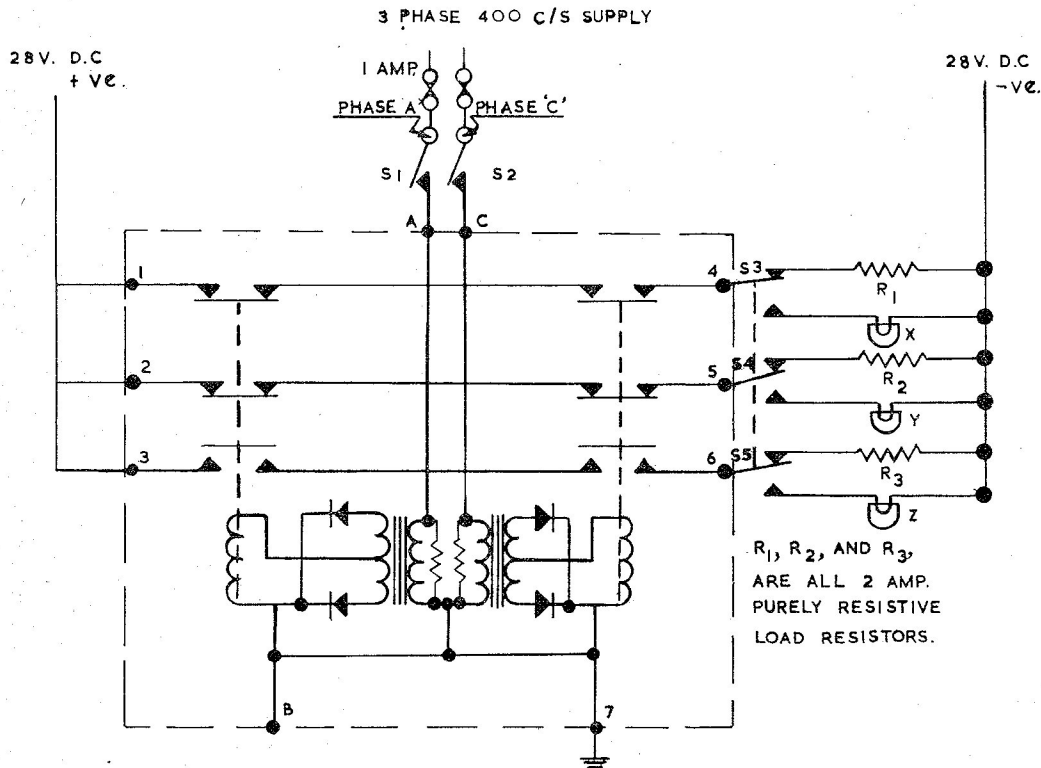

Fig. 5. Test circuit diagram
18. Connect the unit to the test circuit (fig. 5). Switch on 28V d.c. supply and apply 115V (with respect to earth) 400 c/s to S1 and S2. With S3, S4, and S5 switched to the lamp circuit, test as follows:—